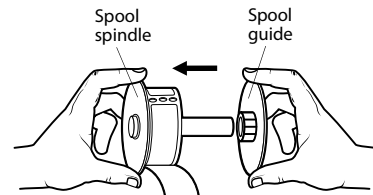

Figure 1
- 4 Hold the spool spindle in your left hand and place the label roll on the spindle so that the labels feed from underneath and the left edge of the label roll is firmly against the side of the spool. See Figure 1.